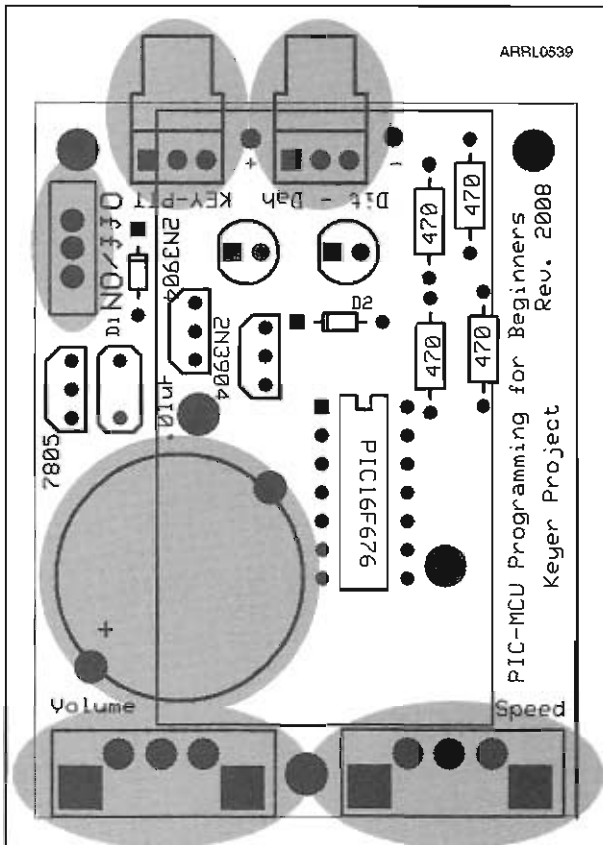

Figure C-6
d. Locate the two variable resistors and the variable resistor outlines on the circuit board. Install these resistors one at a time, they are identical resistors. Install the resistors with the adjustment shaft facing outward from the circuit board. Mechanically, slightly bend the tabs on the resistor body just enough to hold the resistor body flush against the circuit board surface. You may have to hold the resistor body flush with your finger while you solder one resistor lead only (not the body tabs just yet). Inspect the resistor installation and melt and re-solder the component as necessary to get the component body flush against the circuit board surface. Solder the two remaining resistor leads; then solder the tabs of the resistor body. You don't need to fill the holes around the tabs with solder, just apply enough solder to make a good mechanical connection between the tab and the circuit board ground plane (the solder pad). In a similar manner, install the second variable resistor. See **Figure C-6**.